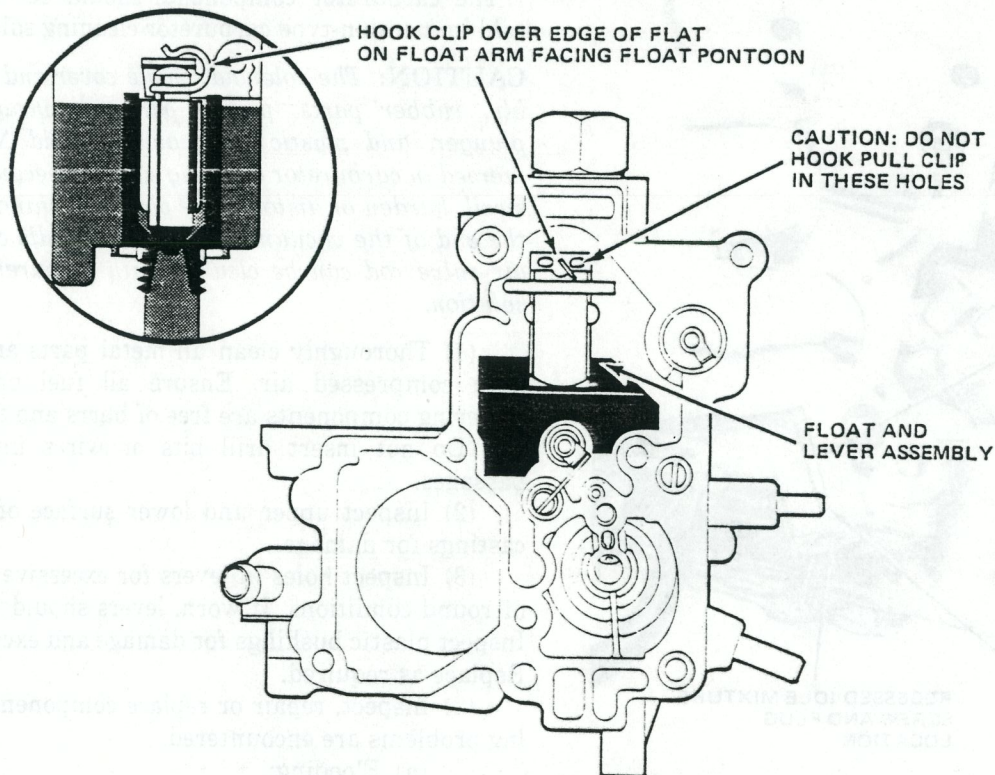

Fig. 1J-46 Model 2SE Carburetor—Float Needle Pull Clip Location
(1) Install slow idle speed screw and spring, if removed, in throttle body (fig. 1J-43).
(2) If removed, install fast idle adjustment screw and clip in primary throttle lever (fig. 1J-43).
(3) Holding primary throttle lever wide open, install lower end of pump rod in throttle lever by aligning notch on rod with slot in lever. End of rod should point outward toward throttle lever.